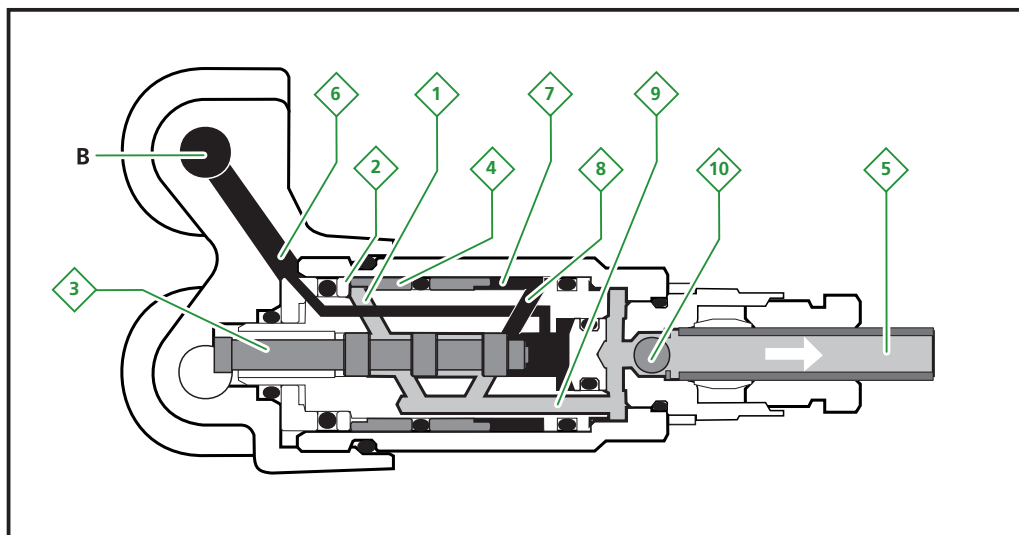
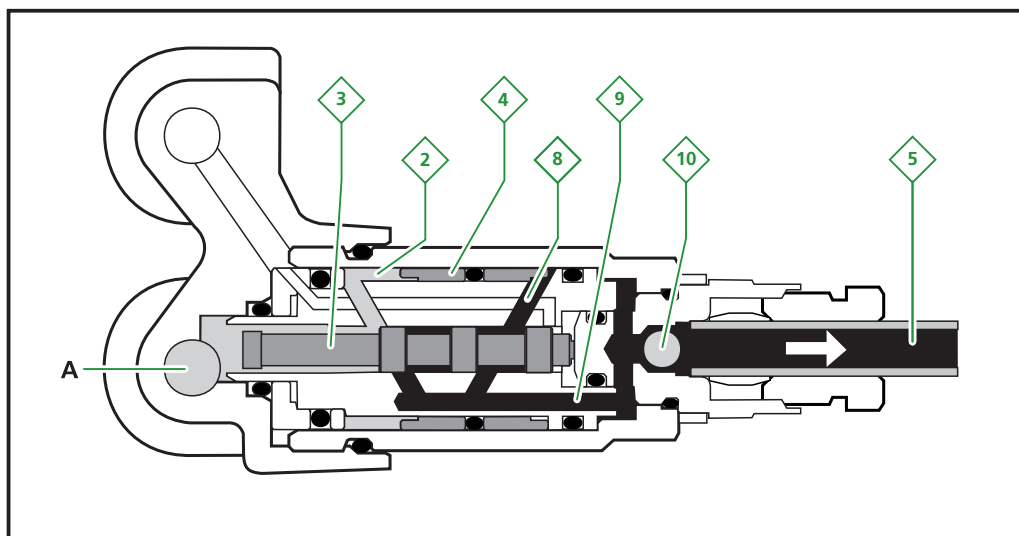

figure 3.5 Principle of operation of the metering unit - third phase
figure 3.6 Principle of the metering unit operation - fourth phase
Grease is pumped into channel (6) of the metering unit (pumping phase B) through primary channel B (see figure 3.5). Because of the grease pressure, plunger (3) is pushed back leftwards, passed channel (8). The grease fills chamber (7) and pushes plunger (4) back to the left. The complete grease volume of chamber (2), to the left of plunger (4), is pressed through channel (1), plunger (3) and channel (9) and the secondary grease line (5) to the greasing point. Sphere (10) in the non-return valve is pushed back to clear the path to the secondary grease line.
In this phase the same happens as in phase 2. However chamber (7) (see figure 3.5) is now filled with grease. Plunger (4) is pushed to the right (see figure 3.6) while chamber (2) is filled. The complete grease volume of chamber (7) is pressed through channel (8), plunger (3) and channel (9) and the secondary grease line (5) to the greasing point. Sphere (10) in the non-return valve is pushed back to clear the path to the secondary grease line.